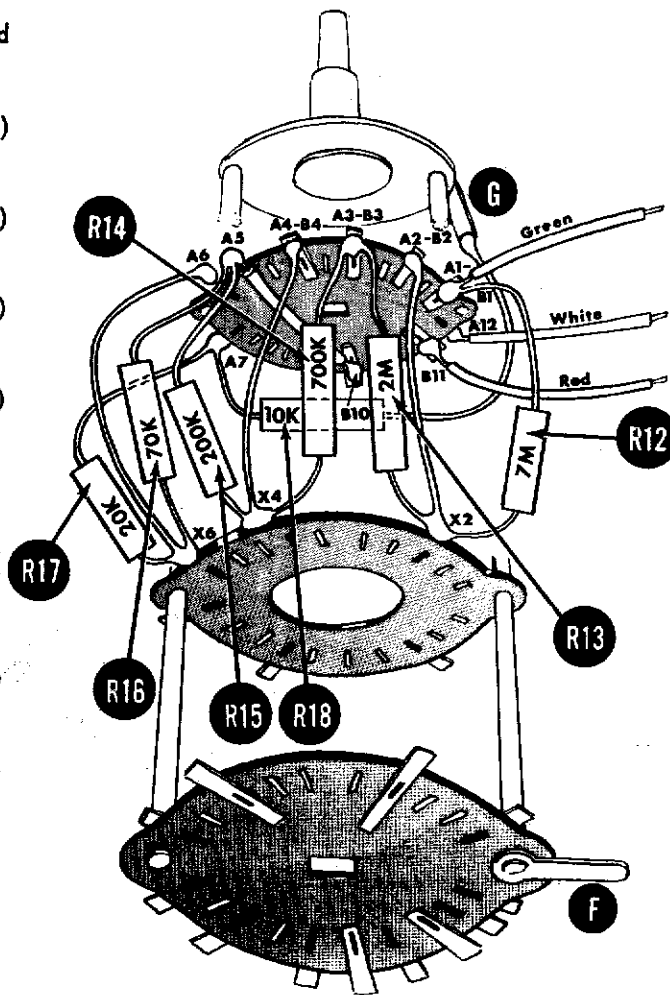
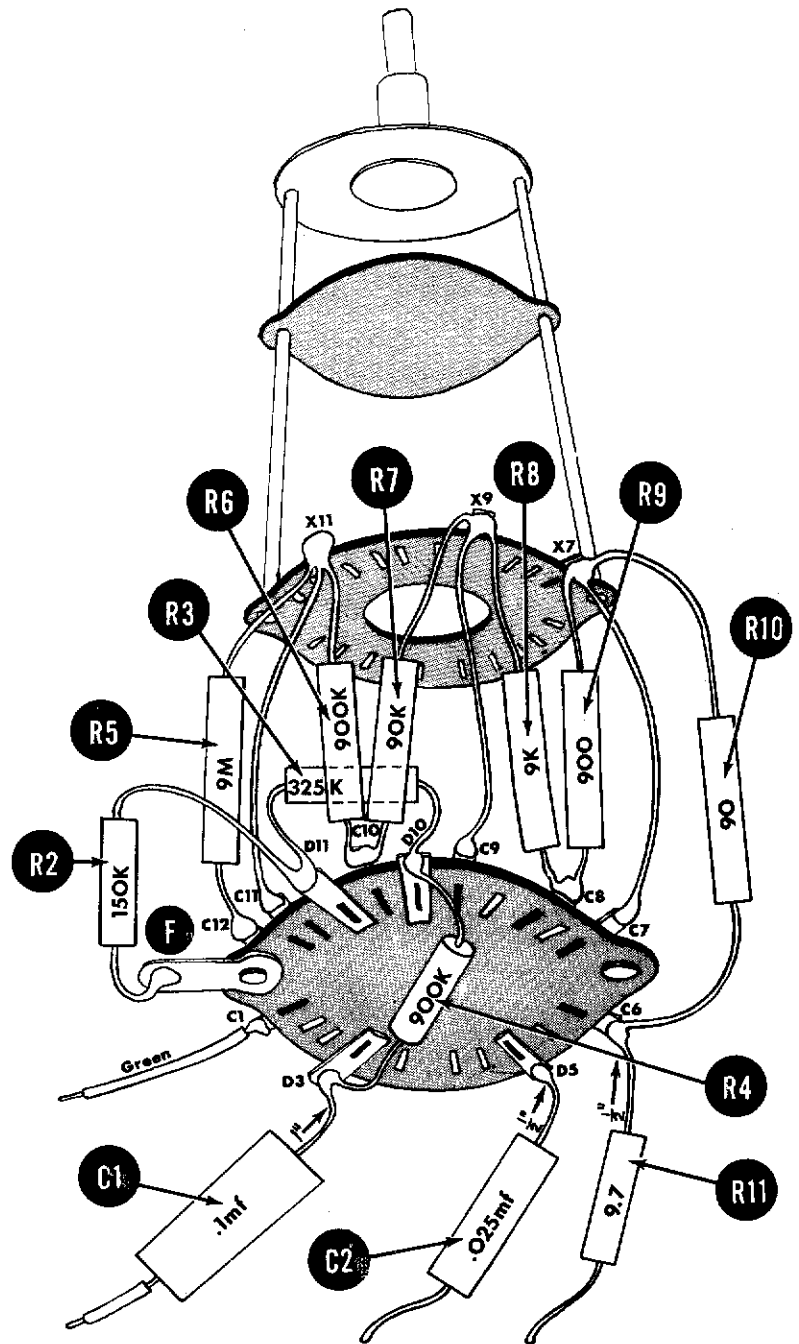

Fig. 4
Fig. 5
IMPORTANT: Before prewiring S2, see Fig. 4 and note the position of lug "F" on the rear wafer in relation to how the switch is being viewed in the drawing. This should enable you to correctly identify the contacts on the actual switch that correspond to the contacts shown in Fig. 4.
- () Fig. 4. Connect a length of hook-up wire from A5 (C) to B10 (S). The A side of the wafer is closest to the detent mechanism.
- () Fig. 4. Connect a length of bare wire from A6 (S) to X6 (C). The X designation will be used for the switch wafer containing the dummy lugs.
- () Fig. 4. Connect a length of bare wire from A4-B4 (S) to X4 (C). When the double designation A4-B4 is used, it means the two switch lugs are electrically connected together by the rivet holding them to the wafer.
- () Fig. 4. Connect a length of bare wire from A2-B2 (S) to X2 (C).
- () Fig. 4. Connect the 10 K Ω resistor R18 from ground lug "G" (S) to A7 (C).
- () Fig. 4. Connect the 20 K Ω resistor R17 from A7 (S) to X6 (C).
- () Fig. 4. Connect the 70 K Ω resistor R16 from X6 (S) to A5 (C).
- () Fig. 4. Connect the 200 K Ω resistor R15 from A5 (S) to X4 (C).
- () Fig. 4. Connect the 700 K Ω resistor R14 from X4 (S) to A3-B3 (C).
- () Fig. 4. Connect the 2 M Ω resistor R13 from A3-B3 (S) to X2 (C).
- () Fig. 4. Connect the 7 M Ω resistor R12 from X2 (S) to A1-B1 (C).
- () Fig. 4. Connect a 5 in. length of green hook-up wire to A1-B1 (S).
- () Fig. 4. Connect a 4 in. length of white hook-up wire to A12 (S).
- () Fig. 4. Connect a 6 in. length of red hook-up wire to B11 (S).
- () Fig. 5. Note that in Fig. 5 the switch is being viewed from the side that faced away from the observer in Fig. 4. Again note the position of lug "F" on the rear wafer in relation to how the switch is being viewed in the drawing. This should enable you to correctly identify the contacts on the actual switch that correspond to the contacts shown in Fig. 5.
- () Fig. 5. Connect a length of bare wire from C11 (S) to X11 (C).
- () Fig. 5. Connect a length of bare wire from C9 (S) to X9 (C).
- () Fig. 5. Connect a length of bare wire from C7 (S) to X7 (C).
- () Fig. 5. Connect the 9M Ω resistor R5 from C12 (S) to X11 (C).
- () Fig. 5. Connect the 900 K Ω (1/2 watt) resistor R6 from X11 (S) to C10 (C).
- () Fig. 5. Connect the 90 K Ω resistor R7 from C10 (S) to X9 (C).
- () Fig. 5. Connect the 9 K Ω resistor R8 from X9 (S) to C8 (C).
- () Fig. 5. Connect the 900 Ω resistor R9 from C8 (S) to X7 (C).
- () Fig. 5. Connect the 90 Ω resistor R10 from X7 (S) to C6 (C).
- () Fig. 5. Connect the 9.7 Ω resistor R11 to C6 (S).
- () Fig. 5. Connect the 150 K Ω resistor R2 from gnd lug F (S) to D11 (C).
- () Fig. 5. Connect the 325 K Ω resistor R3 from D11 (S) to D10 (C).
- () Fig. 5. Connect the 900 K Ω (1 watt) resistor R4 from D10 (S) to D3 (C).
- () Fig. 5. Connect the .1 mf capacitor C1 to D3 (S).